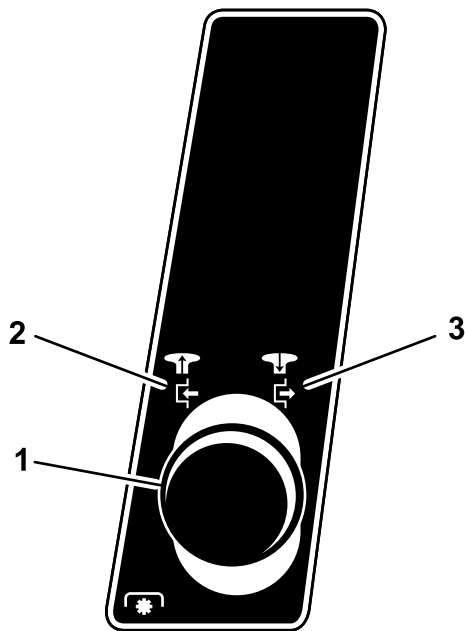

Figure 6
2. Pull the blade control (PTO) knob out to the Engaged position (Figure 6).
2. Push the blade control (PTO) knob into the Disengaged position (Figure 6).